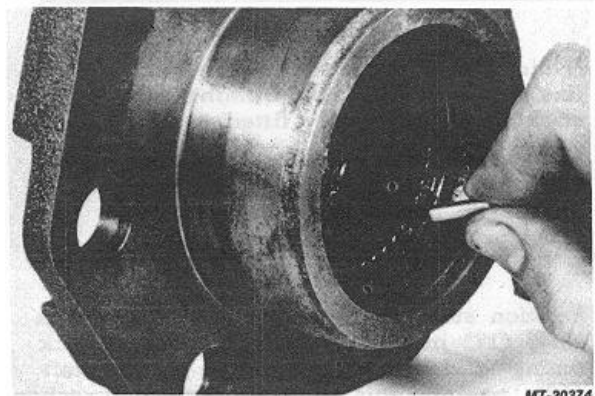

Fig. 8
9. Remove retaining ring (52), two-piece sea] (54), (plastic) back-up washer (55) and (steel) back-up washer (56) from side cover (58).
10. Remove bearing rolls from side cover (58), inspect for wear marks; replace bearing if required. Bearing and bearing rolls cannot be replaced without replacing side cover (Fig. 8).